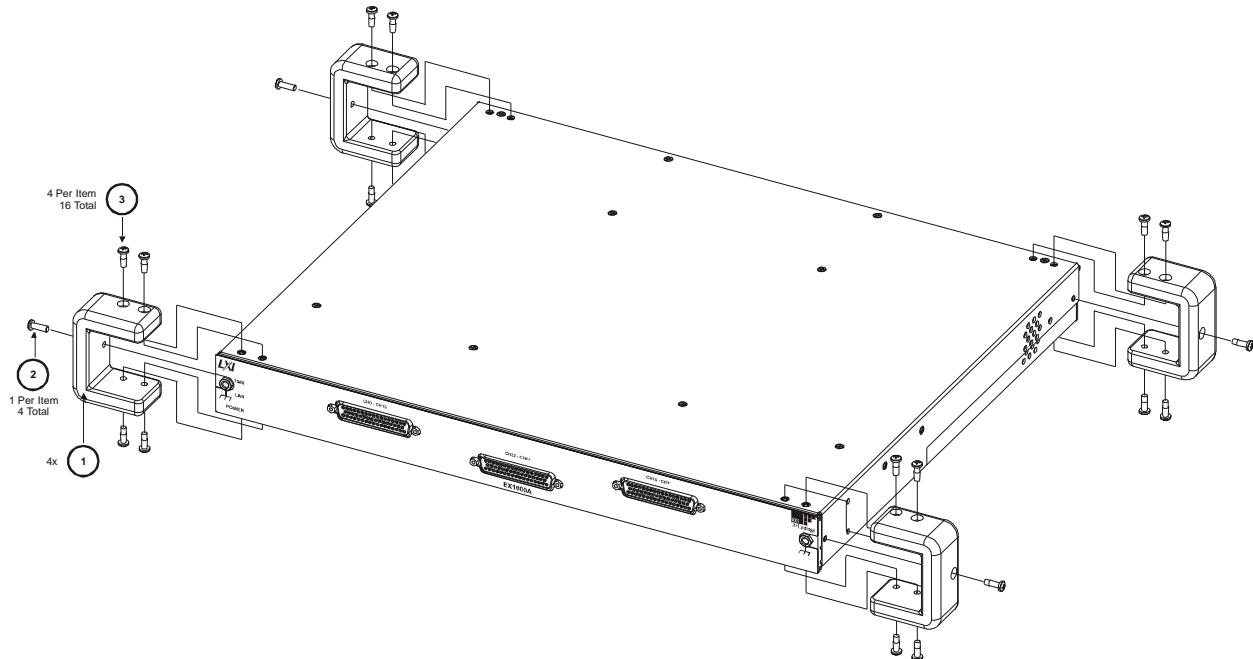

FIGURE 2-3: TABLE TOP FEET INSTALLATION DIAGRAM
- 2) Using Figure 2-3, locate the installation locations for each rubber foot.
- 3) Using the #2 Phillips screw driver, install the four rubber feet using four (4) 6-32 x 7/16" pan head Phillips screws to secure the top and bottom and one (1) 6-32 x 1/2" pan head Phillips screw to secure side of each foot.